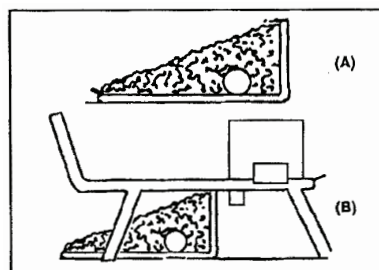

Figure 9
- P. Spread Glowing Embers (Log Kit Part #17) evenly over the top of the granules covering the entire surface area, concentrating on the front and sides of the burner pan as shown for the most realistic burning effect (Figures 9 & 10).